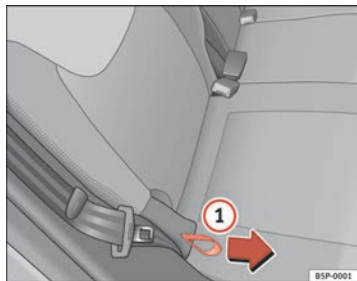

Fig. 98 Rear seat backrest angle adjustment
- Hold the backrest at the top. Pull the loop on the side of the seat ⇒ fig. 98 ① in the direction of the arrow and hold the loop in this position. Push the backrest to the required position and release the loop.